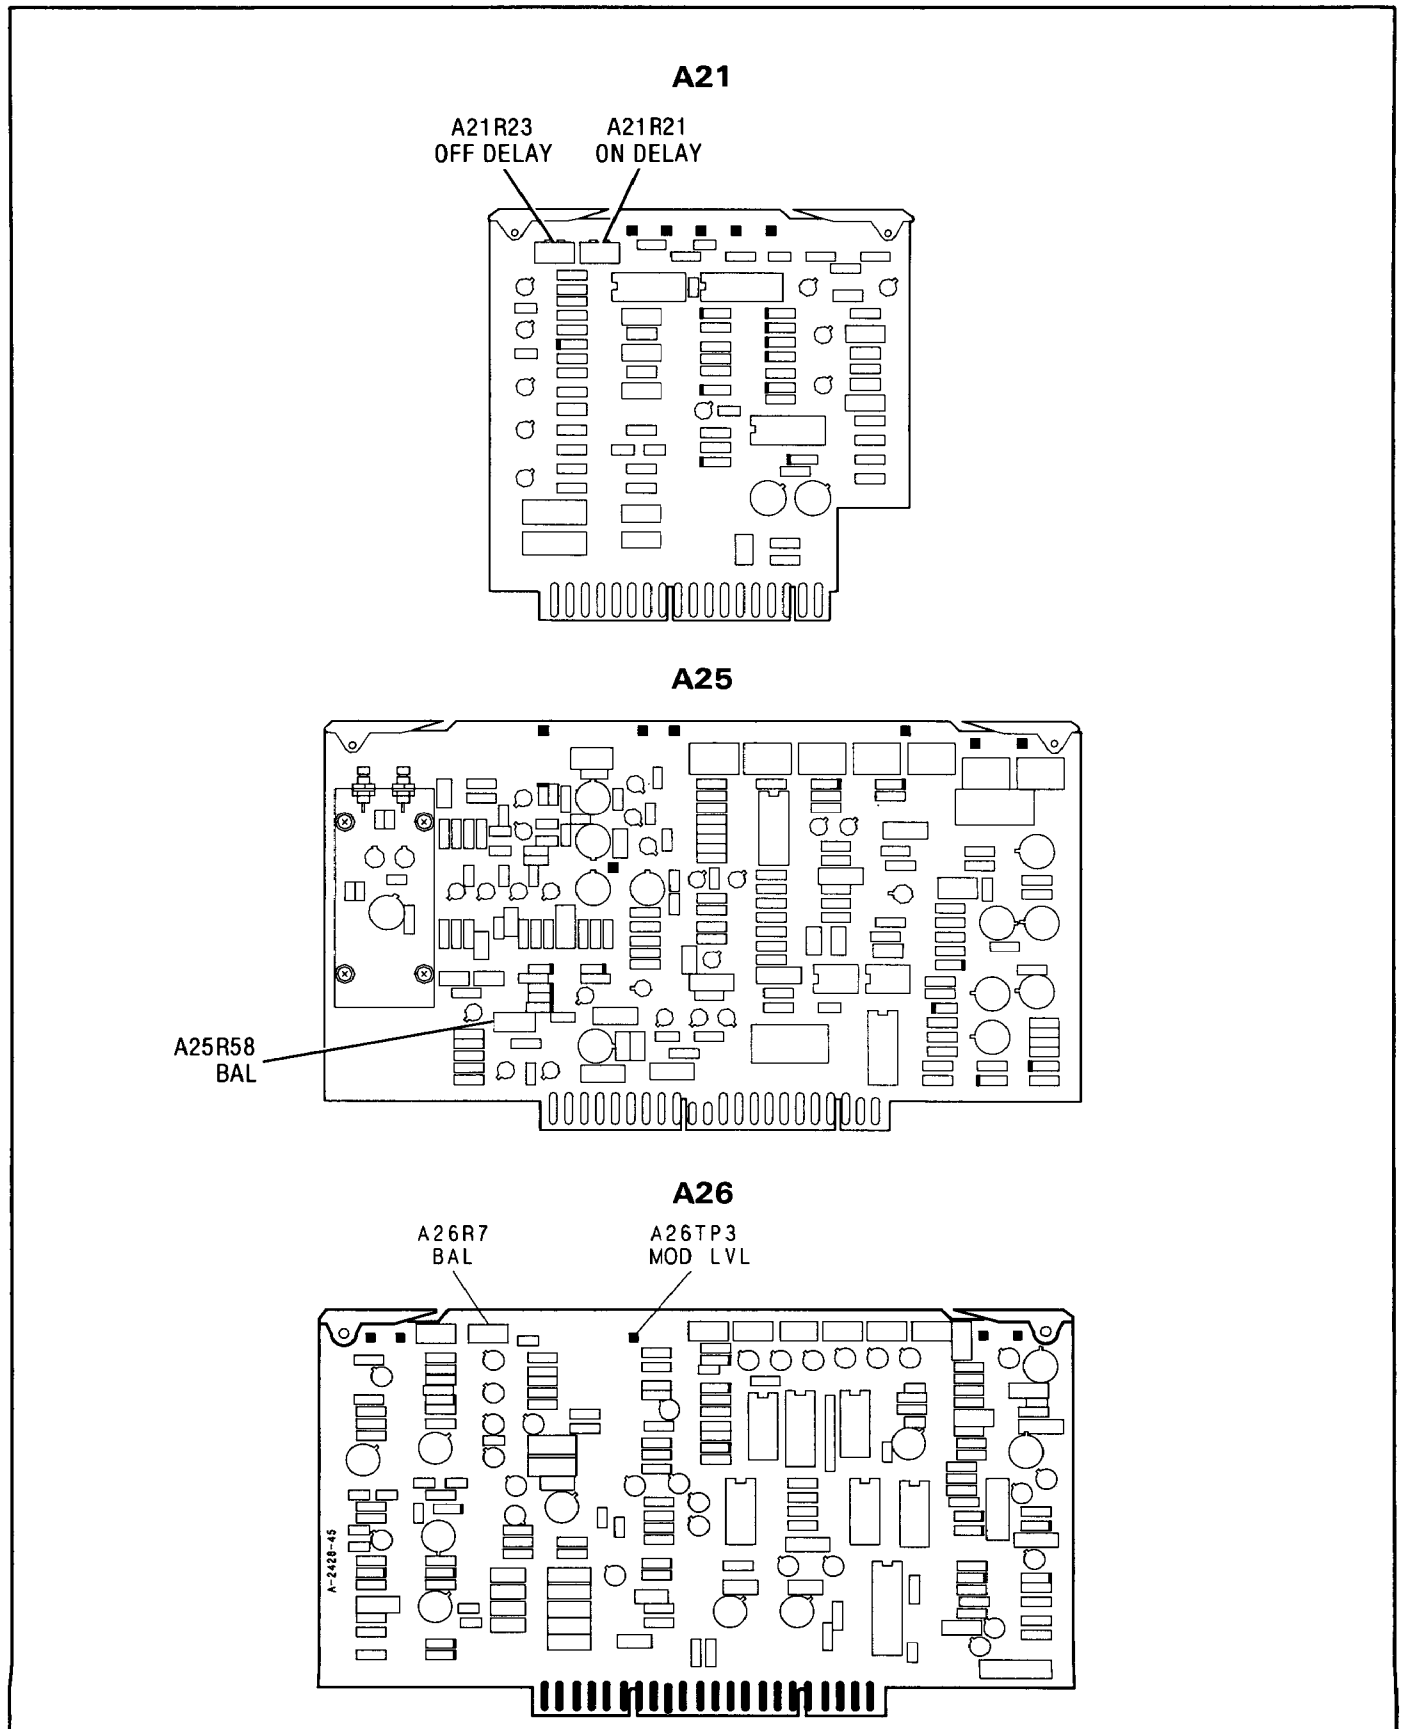

Figure 5-64. Pulse Adjustments Location
4. Press the 8340A Under Test [**INSTR PRESET**]. Press [**PULSE**] ON. Press [**CW**] and enter [**5**] [**GHz**]. Press [**SHIFT**] [**PWR SWP**] and enter [**0**] [**dBm**]. Use the step keys to step in 10 dB RF attenuation. If the 8340A does not include an RF attenuator, connect a 10 dB pad to the RF output. Set A21R21 (ON DELAY) and A21R23 (OFF DELAY) fully counterclockwise. (See Figure 5-64.)